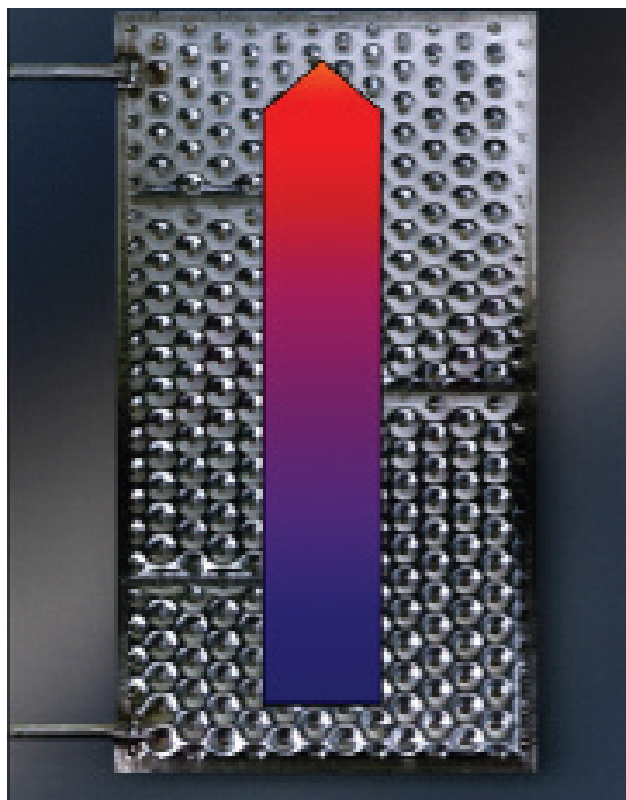

Figure 4 -
2. **Counter Flow Design:** true counter flow design is required on the water side to parallel the dewpoint curve to maximize thermal efficiency. To take advantage of this, the fluid connections to the plate are at the top and bottom. This arrangement is shown in *Figure 4*.